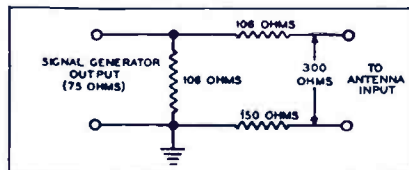

Fig. 1. Antenna-Input Matching Network.
An impedance-matching network for coupling the signal generator to the antenna input terminals of the receiver is shown in figure 1. This network, which is designed to have an input impedance of 75 ohms and an output impedance of 300 ohms is used to match a 75-ohm generator to a 300-ohm antenna-input
SWEEP (FM) GENERATOR: Connect to receiver antenna-input circuit through antenna-input matching network (see figure 1).